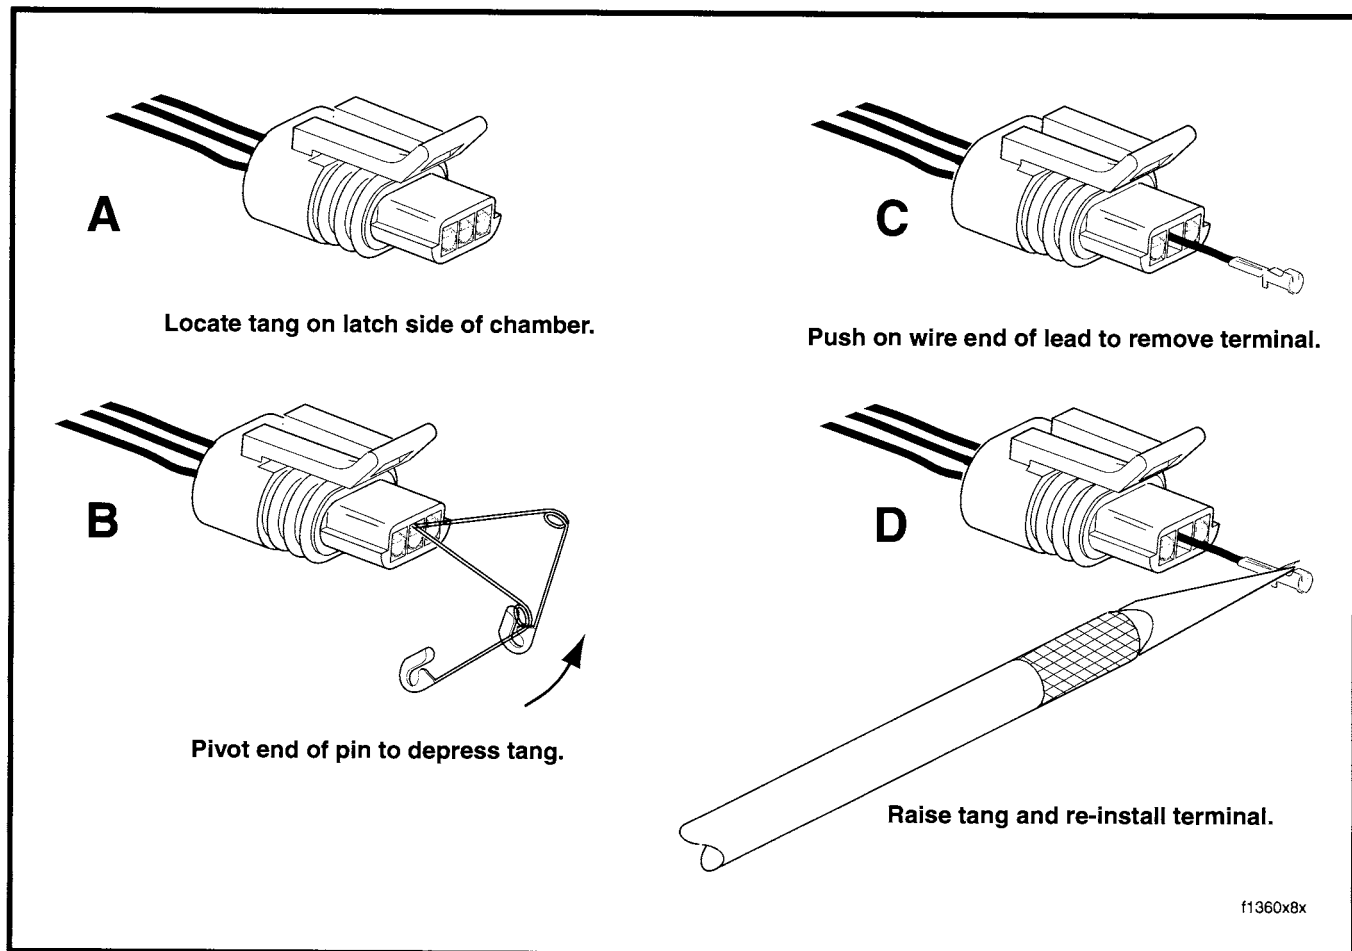

Figure 156. Depress Tang and Extract Terminal From Mating End of Connector
3. To free a pull-to-seat terminal from the connector housing, first look into the mating end of the connector to find the locking tang. See A in Figure 156. The tangs are always positioned in the middle of the chamber and are on the same side as the external latch. On those connectors with locking ears, the tang is on the side opposite the ear.
- At a slight angle, gently insert the point of a one inch safety pin down the middle of the chamber (about 1/8 inch) and pivot the end of the pin toward the terminal body. When a click is heard, remove the pin and repeat the procedure. See B in Figure 156. The click is the sound of the tang returning to the locked position as it slips from the point of the pin. Pick at the tang in this manner until the clicking stops and the pin seems to slide in at a slightly greater depth than it had previously. This is an indication that the tang has been depressed.
- Remove the pin and push on the wire end of the lead to extract the terminal from the mating end of the connector. See C in Figure 156. If necessary, pull back the conduit and remove the wire seal at the back of the connector to introduce some slack in the wires.
- To install a terminal back into the chamber of the connector housing, use a thin flat blade, like that on an X-Acto knife, and carefully bend the tang outward away from the terminal body. See D in Figure 156.